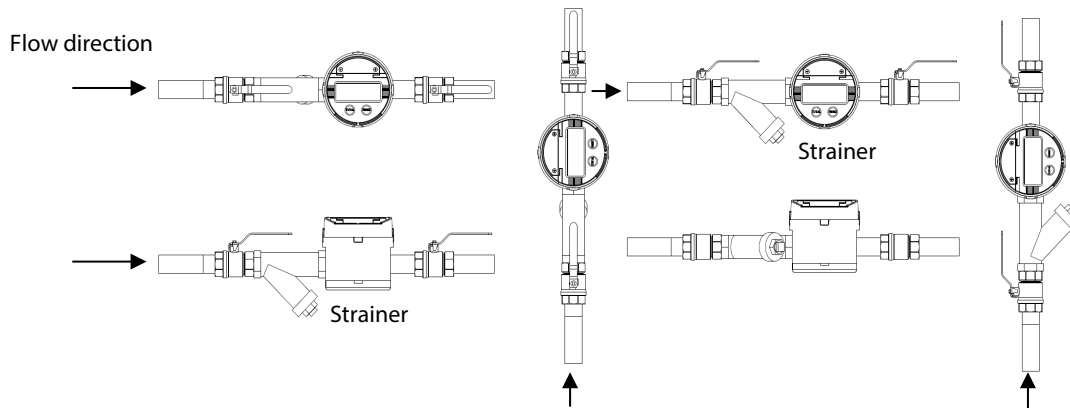

Figure 1: Meter installation
- Make sure to install the meter as shown in Figure 1:.